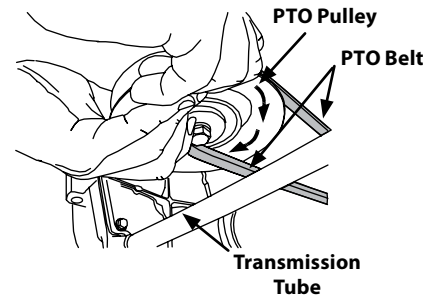

Figure 4-18
- While still holding the belt downward, continue turning the PTO pulley until the belt is rolled off the pulley. Refer to Figure 4-18.
11. Pull the right side of the belt rearward and place the narrow V side of the belt into the PTO pulley. See Figure 4-18.
12. While holding the belt and pulley together, rotate the pulley to the left (See Figure 4-18). Continue holding and rotating the pulley and belt until the belt is fully rolled into the PTO pulley.